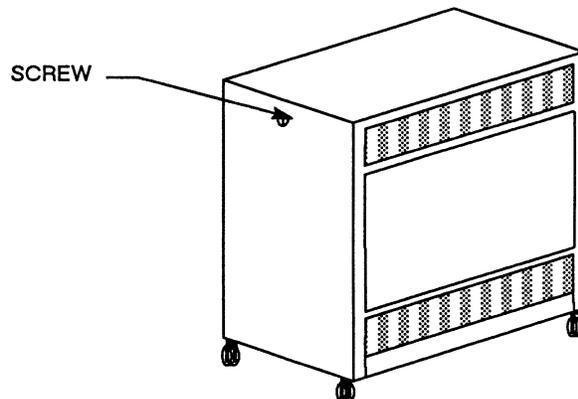

Figure 2-10. Model 32 CADDStation Deskside Module, Rear View
3. Loosen the screw that holds the back cover (see Figure 2-10).